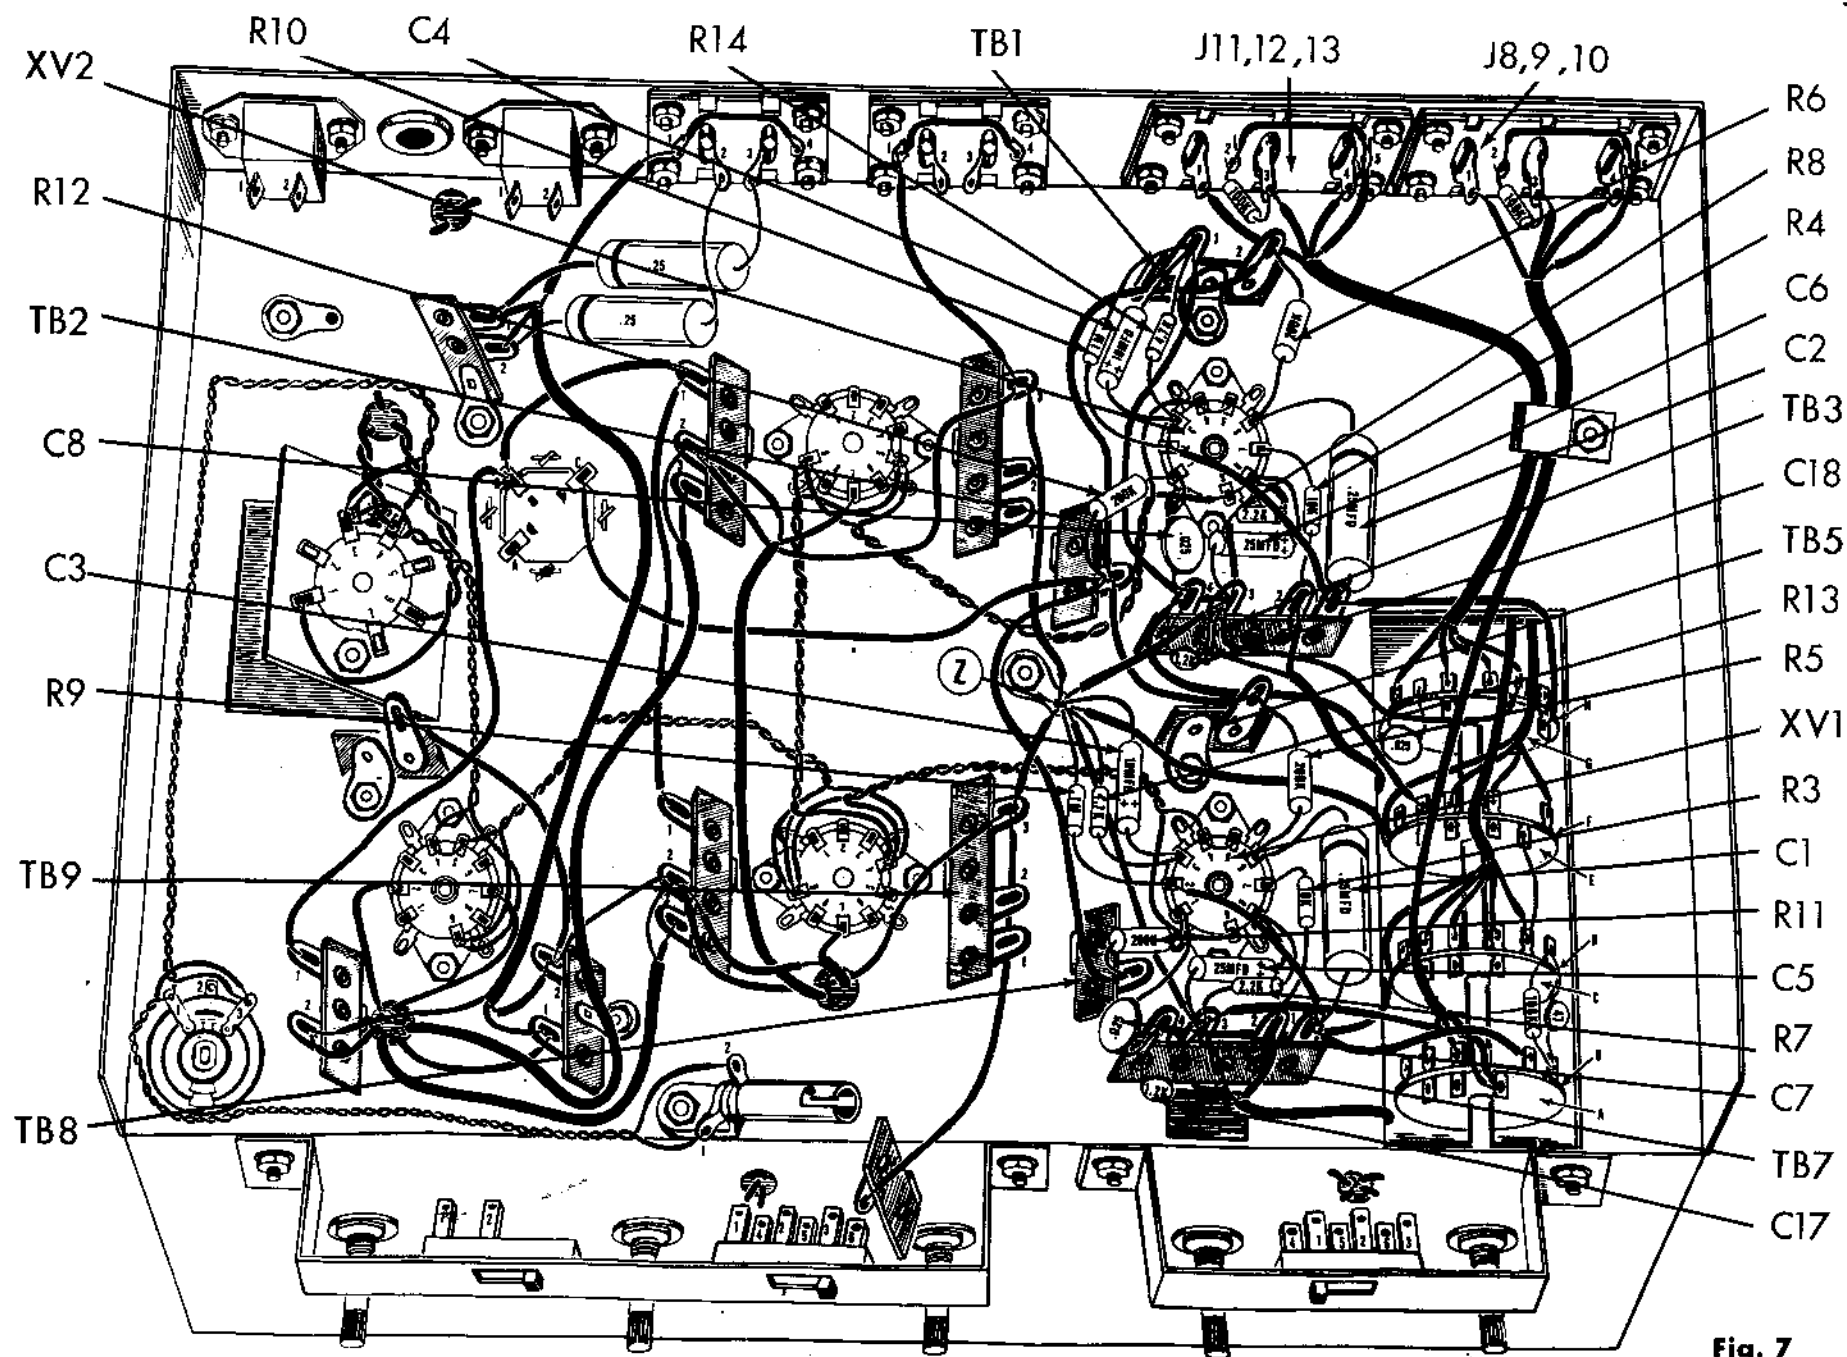

Fig. 7
- ✓ 1. (✓) Fig. 7. Connect the inner conductor from the shielded wire (from wafer "G" on S1) to TB3-2 (C). Connect the shield strands to TB3-3 (C).
- ✓ 2. (✓) Fig. 7. Connect the brown lead from wafer "D" on switch, S1 to TB7-4 (C).
- ✓ 3. (✓) Fig. 7. Connect the inner conductor from the shielded wire (from wafer "B" on S1) to TB7-2 (C) and the shield strands to TB7-3 (C).
- ✓ 4. (✓) Fig. 7. Run the three conductor cable from wafer "H" of switch S1, under the cable clamp and along the chassis as shown. Connect the red lead to J11, 12, 13-3 (S2) the brown lead to J11, 12, 13-1 (S1) the orange lead to J11, 12, 13-4 (S1) and the spaghetti covered shield strands to J11, 12, 13-5 (S2).
- ✓ 5. (✓) Fig. 7. Run the three conductor shielded cable from wafer "A" and "B" of switch S1, under the cable clamp and along the chassis as shown. Tighten the screw holding the cable clamp. Connect the spaghetti covered shield strands to J8, 9, 10-5 (S2) the orange lead to J8, 9, 10-4 (S1), the red lead to J8, 9, 10-3 (S2) and the brown lead to J8, 9, 10-1 (S1).
- 13C ✓ 6. (✓) Fig. 7. Connect the black lead from wafer "A" on input selector switch, S1 to TB7-3 (C).
- ✓ 7. (✓) Fig. 7. Connect the grey lead from wafer "B" on switch S1 to TB7-1 (C).
- ✓ 8. (✓) Fig. 7. Connect a 2" piece of black wire from TB3-3 (C) to ground lug "Z" (C).
- ✓ 9. (✓) Fig. 7. Connect a 1 1/2" piece of black wire from TB9-3 (C) to ground lug "Z" (C).
- ✓ 10. (✓) Fig. 7. Cut all leads on four 200K Ω (red, black, yellow, gold) 5% resistors, R5, 6, 11 and 12 to 1/2". Connect R5 from XV1-6 (C) to TB5 (S2) R6 from XV2-6 (C) to TB1-2 (S2) R11 from XV1-1 (C) to TB8 (S2) and R12 from XV2-1 (C) to TB2 (S5).
- ✓ 11. (✓) Fig. 7. Cut all leads on two 25mfd, 6 volt electrolytic capacitors, C5 and C6, to 3/4". Cover all leads with a 1/2" piece of spaghetti. Connect the positive (+) end of C5 to XV1-8 (C) and the negative (-) end to TB7-3 (C). Connect the positive (+) end of C6 to XV2-8 (C) and the negative (-) end to TB3-3 (C).
- ✓ 12. (✓) Fig. 7. Cut all leads on two 2.2K Ω (red, red, red, silver) resistors, R7 and R8, to 3/4". Cover each lead with a 1/2" piece of spaghetti. Connect R7 from XV1-8 (S2) to TB7-3 (C) and R8 from XV2-8 (S2) to TB3-3 (C).
- ✓ 13. (✓) Fig. 7. Cut one lead on each of two 10K Ω (brown, black, orange, silver) resistors, R3 and R4, to 1" and the second lead on each resistor to 1/2". Connect the shorter lead of R3 to XV1-7 (S) and the longer lead to TB7-2 (C). Connect the shorter lead of R4 to XV2-7 (S) and the longer lead to TB3-2 (C).
- ✓ 14. (✓) Fig. 7. Cut all leads on two .25mfd (red, green, yellow, white, red) 200 volt paper capacitors, C1 and C2, to 1/2". Connect C1 from XV1-6 (S2) to TB7-1 (C) and C2 from XV2-6 (S2) to TB3-1 (C).
- ✓ 15. (✓) Fig. 7. Cut all leads on two 10mfd, 6 volt electrolytic capacitors, C3 and C4, to 1/2". Connect the positive (+) end of C3 to XV1-3 (C) and the negative (-) end to ground lug "Z" (C). Connect the positive (+) end of C4 to XV2-3 (C) and the negative (-) end to TB1-1 (C).
- ✓ 16. (✓) Fig. 7. Cut all leads on two 4.7K Ω (yellow, violet, red, silver) resistors, R13 and R14, to 3/4". Connect R13 from XV1-3 (S2) to ground lug "Z" (C) and R14 from XV2-3 (S2) to TB1-1 (C).
- ✓ 17. (✓) Fig. 7. Cut all leads on two 1M Ω (brown, black, green, silver) resistors, R9 and R10 to 3/4". Connect R9 from XV1-2 (C) to ground lug "Z" (S8) and R10 from XV2-2 (C) to TB1-1 (S4).
- ✓ 18. (✓) Fig. 7. Connect a 2 1/4" piece of green wire from XV1-2 (S2) to TB7-1 (S3).
- ✓ 19. (✓) Fig. 7. Connect a 2 1/4" piece of green wire from XV2-2 (S2) to TB3-1 (S3).
- ✓ 20. (✓) Fig. 7. Cut all leads on two .025mfd (25K or 25,000mmf) disc capacitors, C7 and C8, to 3/4". Connect C7 from XV1-1 (S2) to TB7-4 (C) and C8 from XV2-1 (S2) to TB3-4 (C).
- ✓ 21. (✓) Fig. 7. Cut all leads on two .0012mfd (1.2K or 1200mmf) disc capacitors, C17 and C18, to 1/2". Connect C17 from TB7-3 (C) to TB7-4 (S3) and C18 from TB3-4 (S3) to TB3-3 (C).